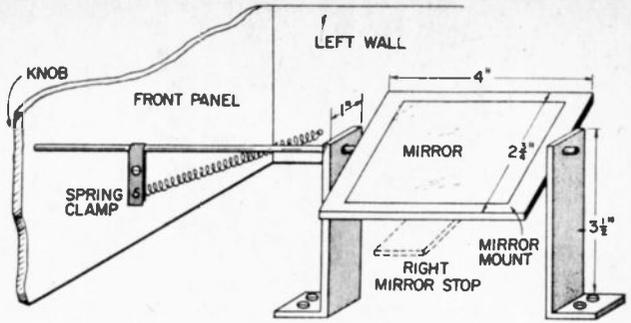

FIG. 7. Mirror assembly within the box. Rigid angle irons support the mirror. Household draw-drape rods were used.
**Mirror Assembly.** Figs. 7 and 8 show the mirror assembly inside the box. You need two rigid angle irons to support the mirror. I used extendable brackets intended to support household draw-drape rods; these are easily extended to any desirable height. However, plain angle-irons do just as well but be sure they are sturdy and firmly mounted.
The "right mirror stop" indicated in Fig. 7 limits the right-hand swing of the mirror as described in the following.